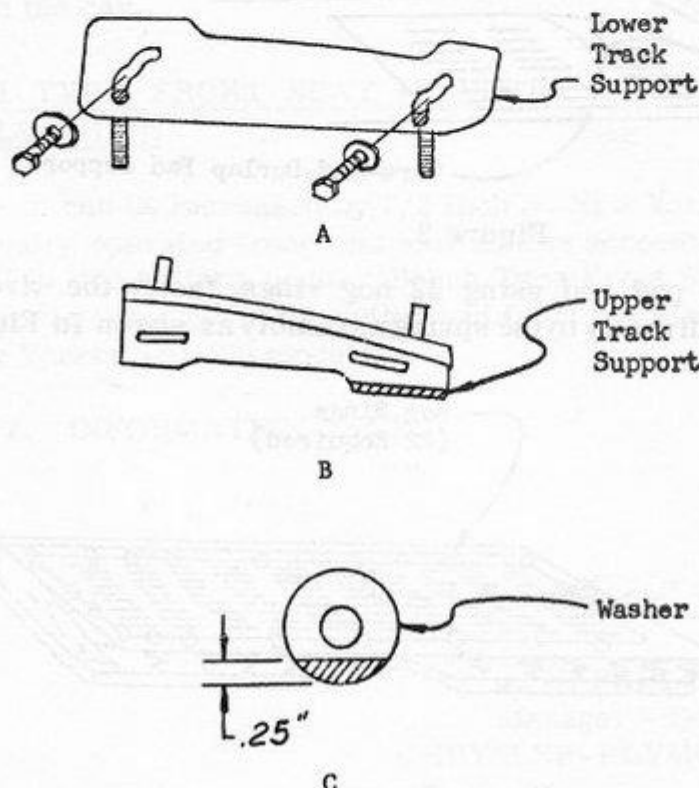
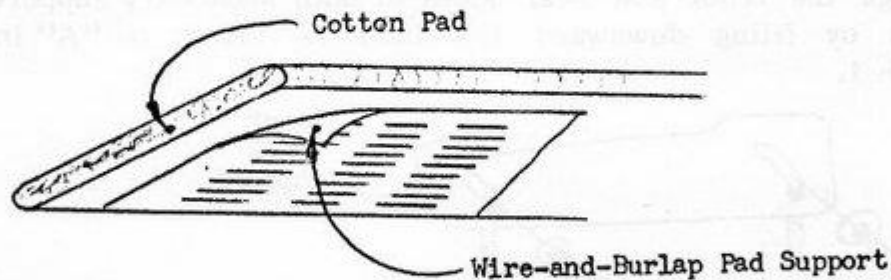

Figure 1
Figure 2
- (1) Remove the front seat assembly from the car.
- (2) Remove the stationary seat support plates from the seat assembly.
- (3) Enlarge the front and rear slots in both stationary support plates by filing downward 1/4 inch as shown in "A" in Figure 1.
- (4) Cut off the down-turned flanges at the rear lower ends of each adjustable support plate as shown in "B" in Figure 1.
- (5) Cut 1/4 inch off of the support plate adjusting bolt washers as shown in "C" in Figure 1.
- (6) Assemble the stationary support plates to the seat assembly sliding the adjustable plate downward until the adjusting bolts bottom on the filed slot extensions. Rotate the washers until the flat side is down and tighten the bolts.
- (7) Then on Newport models install the seat assembly in the car. On New Yorker and 300 models an additional 1/2 inch of headroom can be obtained. Proceed with Step 8.
- (8) Remove the seat side shields and remove the seat back from the cushion.
- (9) Remove the cushion cover from the cushion spring assembly by removing all hog rings.
- (10) Remove the urethane foam pad.
- (11) Remove the wire-and-burlap pad support from the burlap underside of the cotton pad. The pad support is cemented to the pad and it can be easily peeled off. Refer to Figure 2.